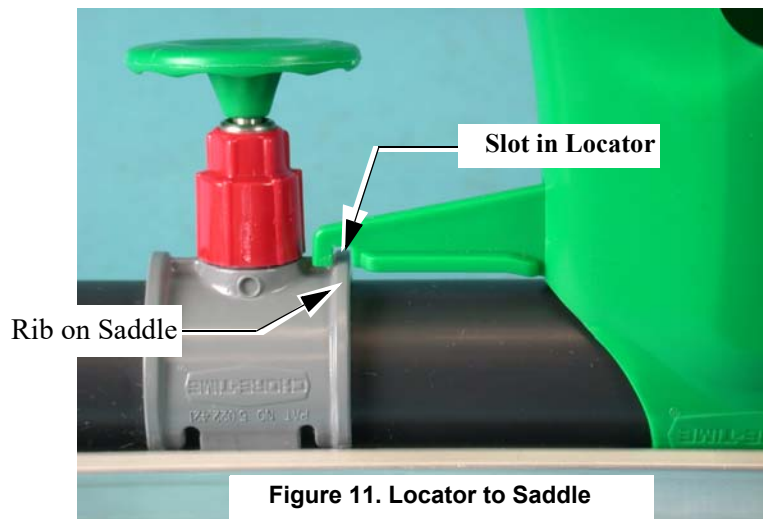

Figure 11. Locator to Saddle
4. Line up slot in locator with rib on the saddle assembly, see **figure 11**.